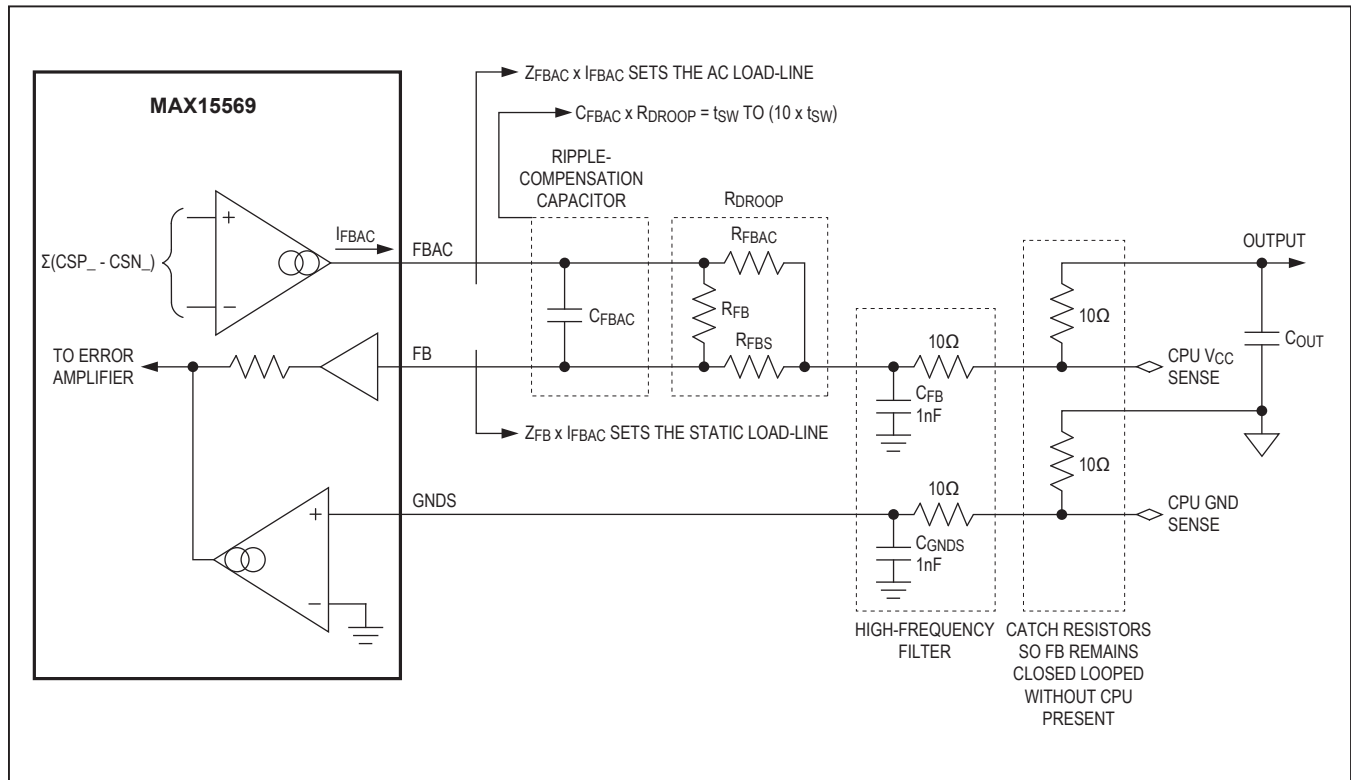

Figure 6. FB Network (Load-Line Control and Remote Sensing)
The device includes a transconductance amplifier for controlling the load-line regardless of the sense impedance value. The input signal of the amplifier is the sum of the current-sense voltages (V_{CSP1} , V_{CSN1} , and V_{CSP2} , V_{CSN2}), which differentially sense the current-sense voltage. See Figure 6.
- The effective impedance (Z_{FB}) between the feedback-sense input (FB) and the positive side of the feedback remote sense sets the static (DC) droop.
- An integrator on FB corrects for output ripple and ground-sense offset (see Figure 6).
*See Figure 6.
The device includes differential, remote-sense inputs to eliminate the effects of voltage drops along the PCB traces and through the power pins of the processor. The feedback-sense node connects to the load-line resistor/capacitor network (R_{DROOP}/C_{FBAC}). The ground-sense (GNDS) input connects to an amplifier that adjusts the feedback voltage to counteract the voltage drop in the ground plane. Connect the load-line resistor (R_{DROOP}) and ground-sense (GNDS) input directly to the remote-sense outputs of the processor, as shown in Figure 6. The correction range is bounded to less than ±200mV. The remote-sense lines draw less than ±0.5μA to minimize the offset errors.